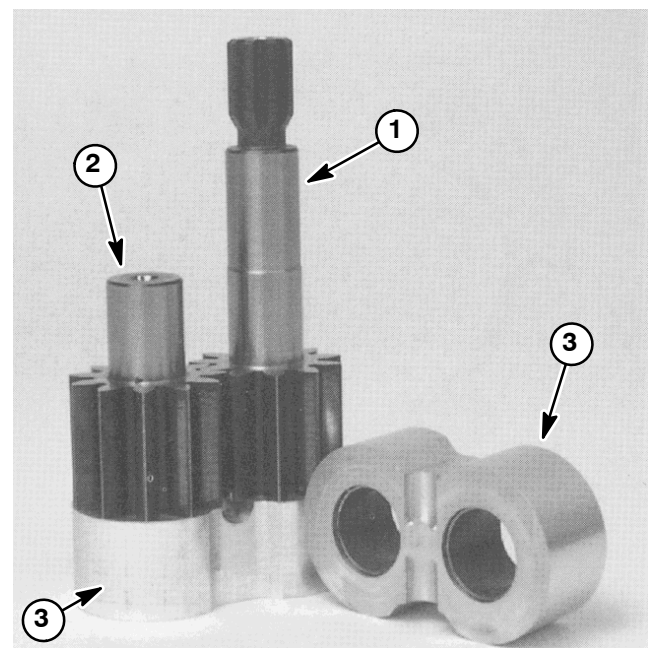

Figure 56
3. Inspect drive gear, idler gear and bearing blocks (Fig. 56) for the following: